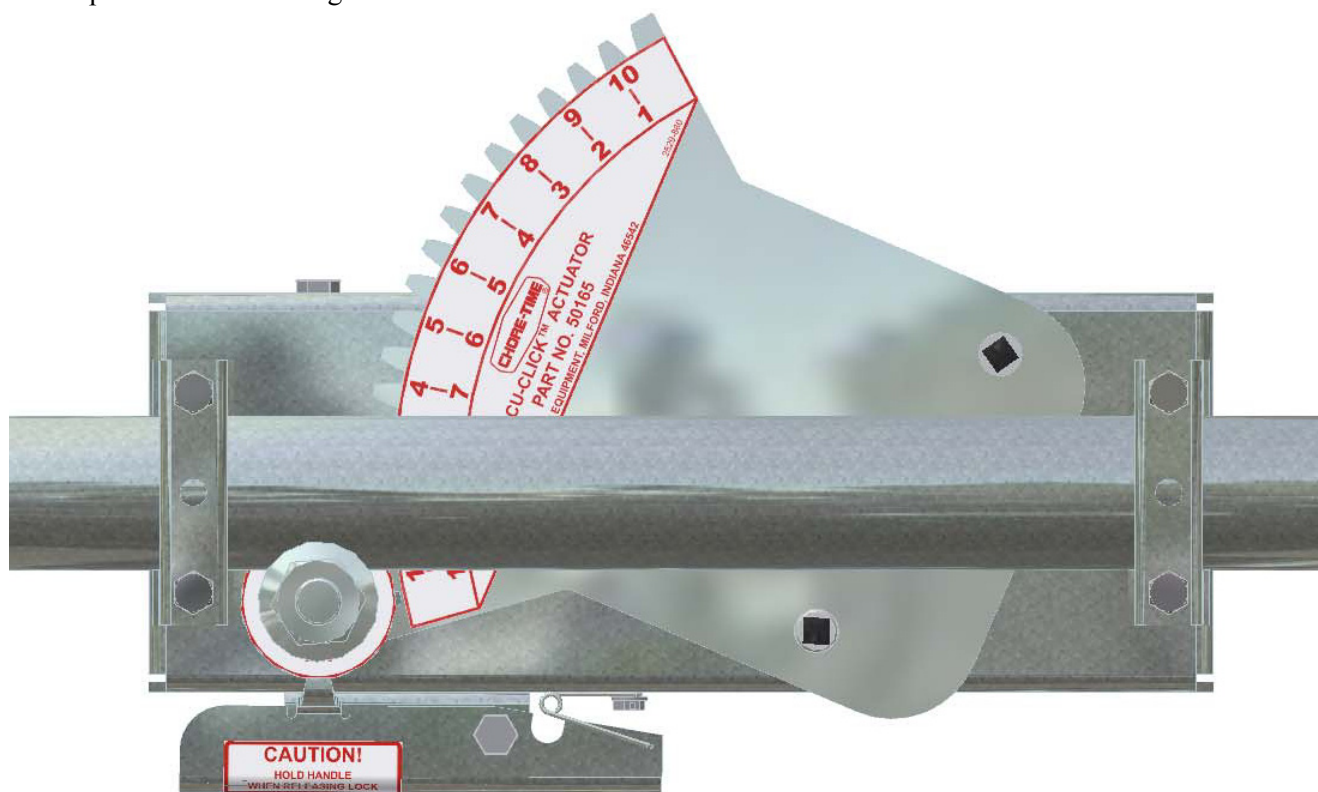

Figure 68. Actuator in Fully Open Brood Position
1. Once all actuators are installed operate actuators to the retracted fully open brood position, **see figure 68.**
The Mid-Line Control makes it possible to operate the feeding system when birds are confined away from the End Control Unit. Chore-Time recommends placing the Mid-Line Control Feeder at least 2 pans away from the curtain or partition. See **Figure 68**.